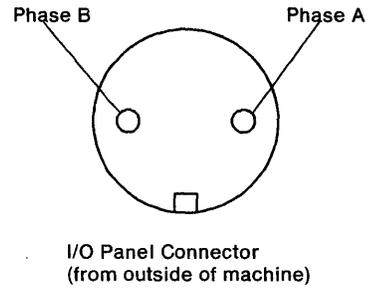

Figure 3-71. I/O Panel Connector
6. Check for the following resistances at *socket 1* using Figure 3-71 on page 3-137 and Table 3-51, setting the ohmmeter to a range of 1 or higher.
7. Check for the following resistances using Figure 3-71 on page 3-137 and Table 3-52, setting the ohmmeter to the X1 scale.
9. Check for the following resistances at *socket 1* using Figure 3-71 on page 3-137 and Table 3-53 on page 3-137, setting the ohmmeter to the X10 scale.
10. Skip this step for work stations that do not have cable-thru. Otherwise, check the following resistances using Figure 3-71 and Table 3-54, setting the ohmmeter to the 1k scale or higher.